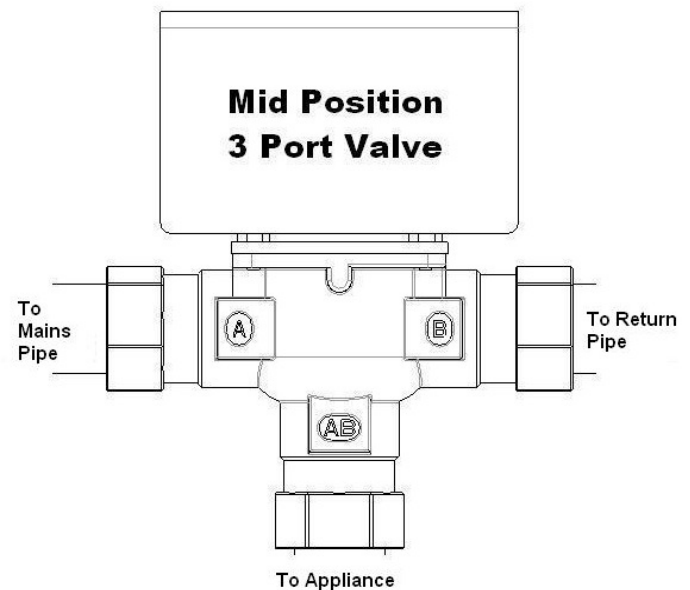

Figure 2.
4. Connect the 3 Port Valve as shown in Fig. 2.
4. Connect the 3 Port Valve as shown in Fig. 2. Note the following connections must be made in this order: